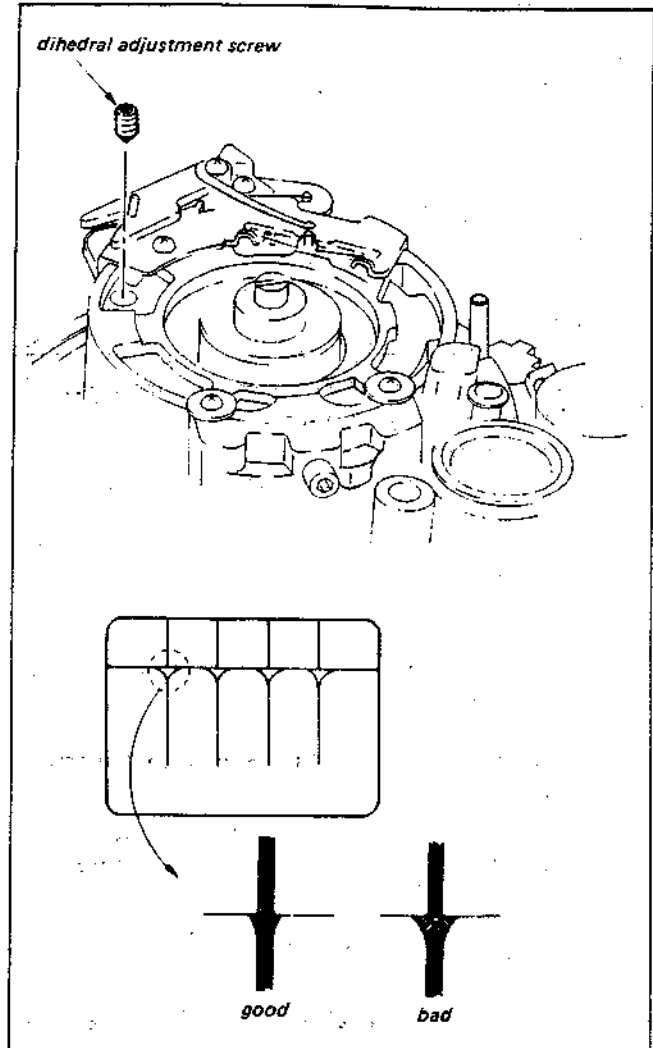

Fig. 3-3. Video head dihedral adjustment
- 1) As shown in Fig. 3-3, screw two dihedral angle adjustment screws (Jig Ref. No. J-10) into the adjustment screw holes on the side on which the red lead wires from the video head are connected, until the top of the screw is level with the video head disk. (If they are not screwed in far enough, the video head disk will not turn past the point where the top of the adjustment screw strikes the upper drum. Conversely, if it is screwed in too far, the head base will be moved, throwing the video head dihedral angle way off.)